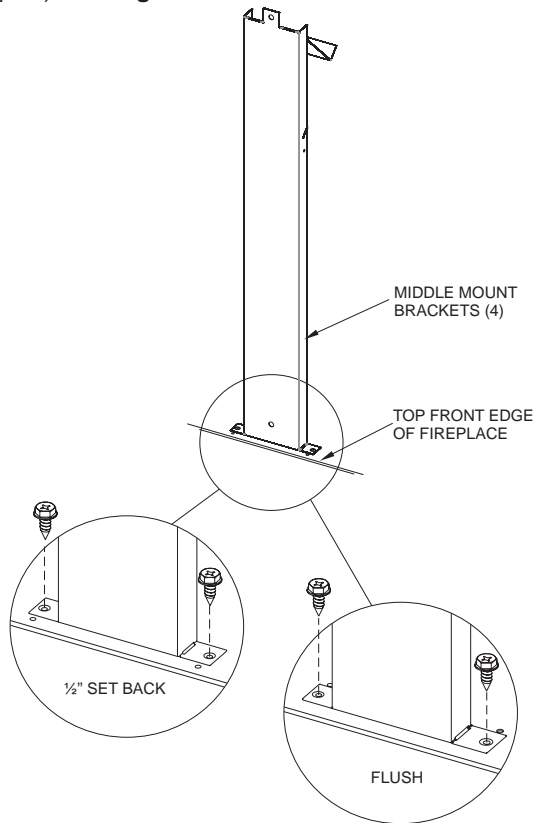

Figure 29
- Attach the four middle mount framing brackets to the top front edge of the fireplace. These brackets support the supplied non-combustible board above the fireplace. Preset depth to suit facing material (flush or 1/2 inch set back depths). **See Figure 29.**